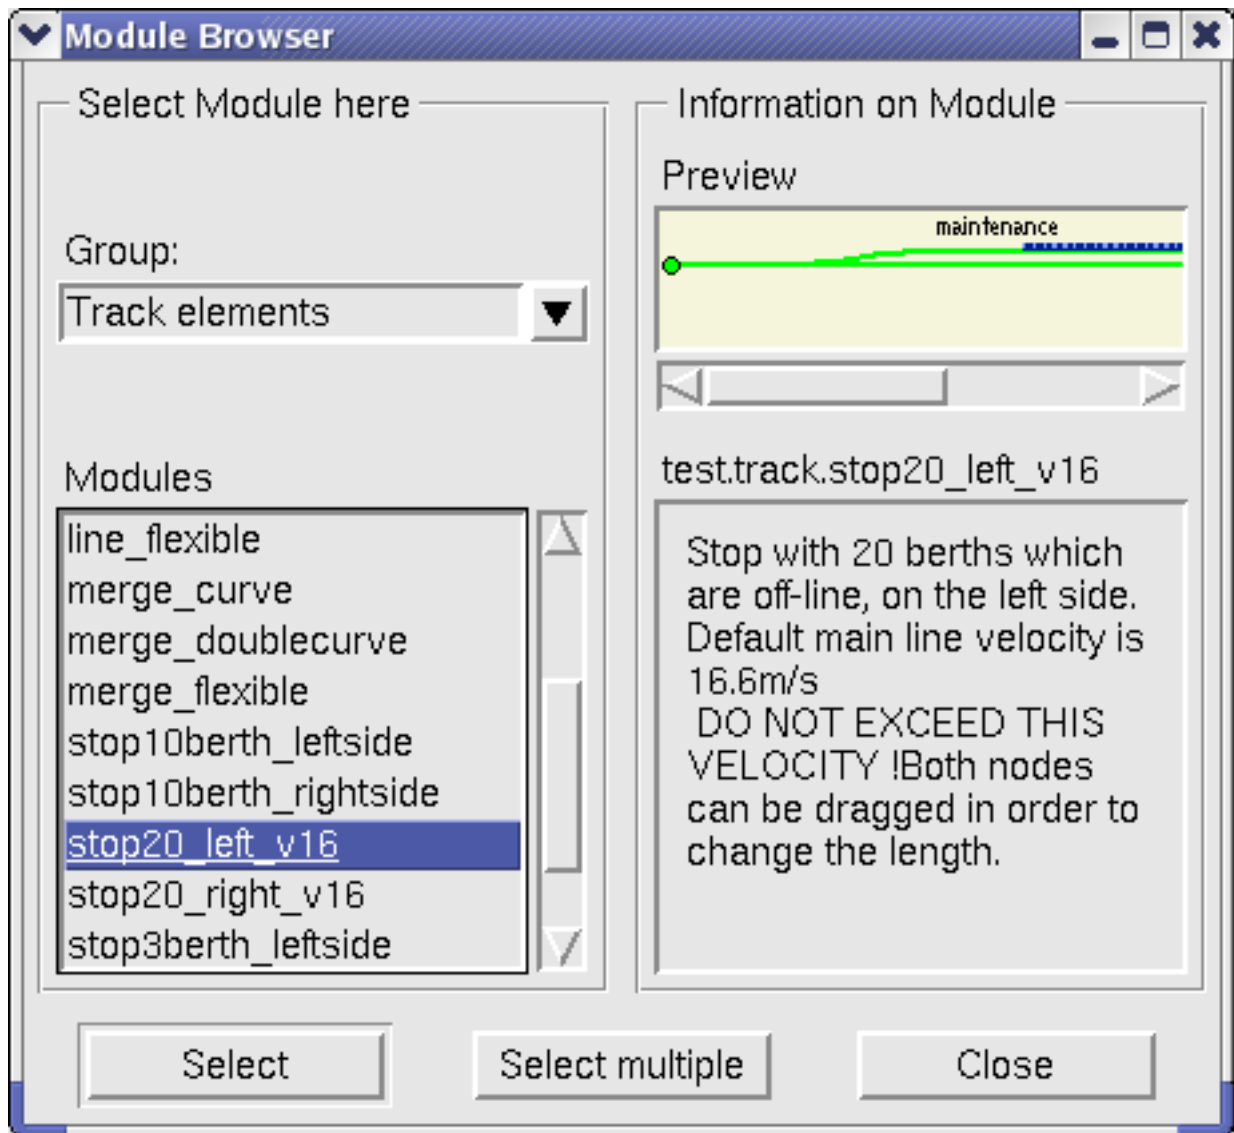

Figure 7: The module browser. A selection panel for adding track-elements, vehicles and users. To see this panel go `Edit/ Module/ Add...`
5. Add, adjust and connect track elements: Open first the Module browser with **Edit/Module/ Add...** The module browser, as shown in Fig. 7, has a group-pull down menu and module selection dialog box. Choose track-elements at the **group** pull down menu. Select a particular track element from the **Modules** selection box that you want to add to the simulation. An example of a selected type is shown in the preview window together with some additional text information. Note the little circles on each extremity of track elements. An empty circle indicates an input node (where vehicles enter), whereas a filled box marks an output node (where vehicles leave).